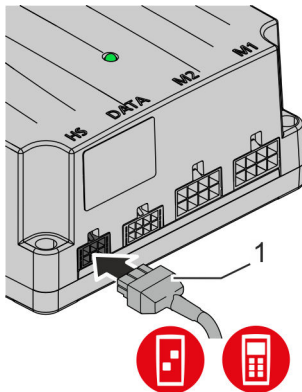

Fig. 22: Connecting the hand switch (example RK MultiControl II duo)
- ➔ Connect the cable of the respective hand switch (Fig. 22/1) to the hand switch interface HS.